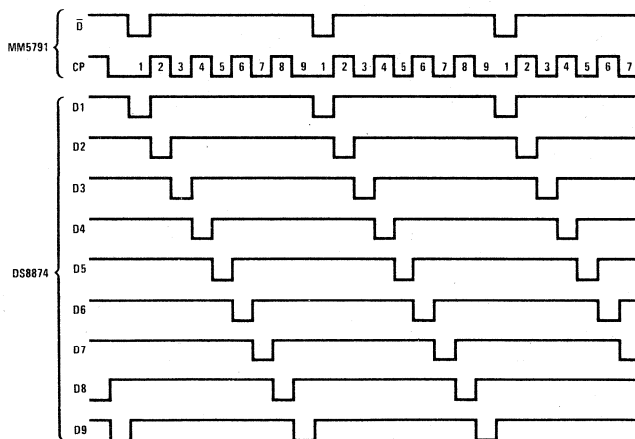

FIGURE 3. Digit Timing
Data (\bar{D}) and Shift (CP) outputs are the only two connections required between the MM5791 and the digit driver. This reduces the number of pins on both packages and the amount of interconnect on the printed circuit board. *Figure 3* shows the timing relationships between the MM5791 and DS8874.